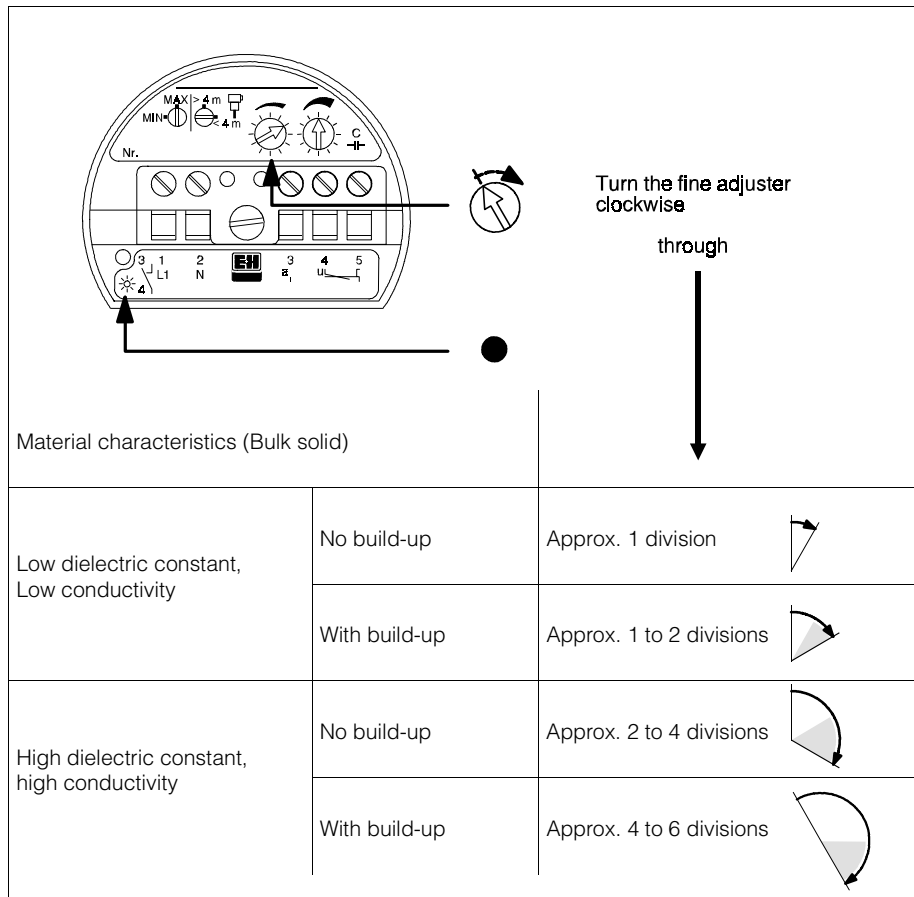

Fig. 21
- Carry out the calibration according to the sequence of diagrams Fig. 19 to Fig. 21.